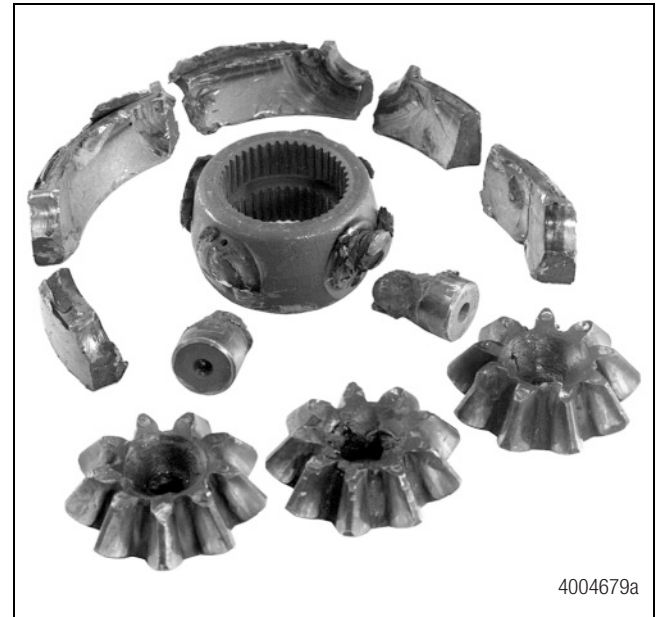

Figure 4.84
**Primary Damage:** You find severe galling on the spider legs. Two loose spider legs have seized inside the pinions. Figure 4.84.
The four spider legs were sheared from the spider at the splined hub area. The differential case halves have separated and are broken. Figure 4.84.